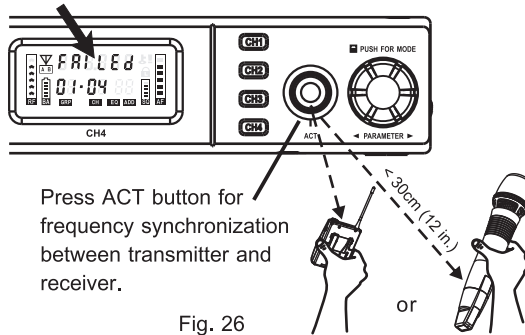

Fig. 26
- (1) Press rotary knob to select SQ meter. SQ cursor blinks to denote it is ready to accept parameter changes.
- (2) Turn the knob right to increase indicator grids. Turn left to decrease indicator grids.
- (3) After changing the parameter, press the knob again, SQ cursor stops blinking and saves the new value automatically.
- (4) The lower the SQ level, the higher sensitivity level is when searching automatically for a non-interference channel. When SQ is set as the highest level, the frequency can be selected forcibly regardless the level of external interferences.
- (5) The SQ setting, regardless high or low, will not affect the receiver's sensitivity during a performance.
(I) ACT Sync Set-up. Fig. 26: